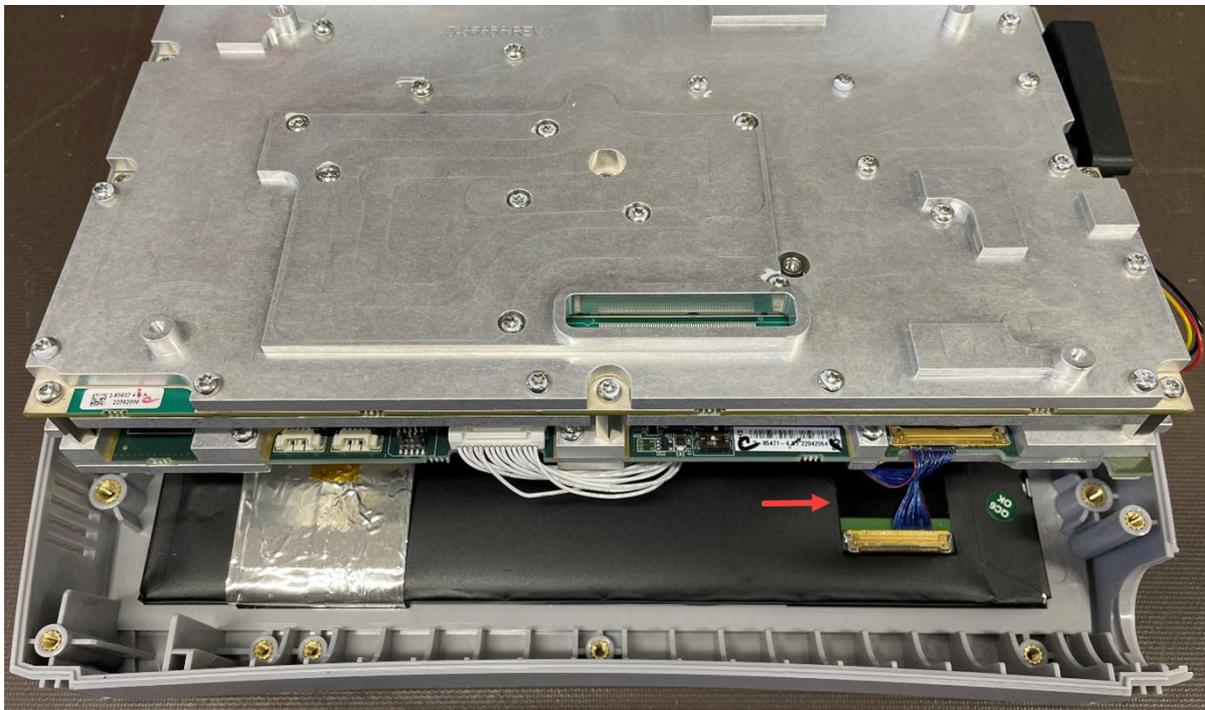

Figure 4-10. Display Cable
7. Carefully tilt the Main PCB/SPA PCB assembly to view the display cable. See Figure 4-10.